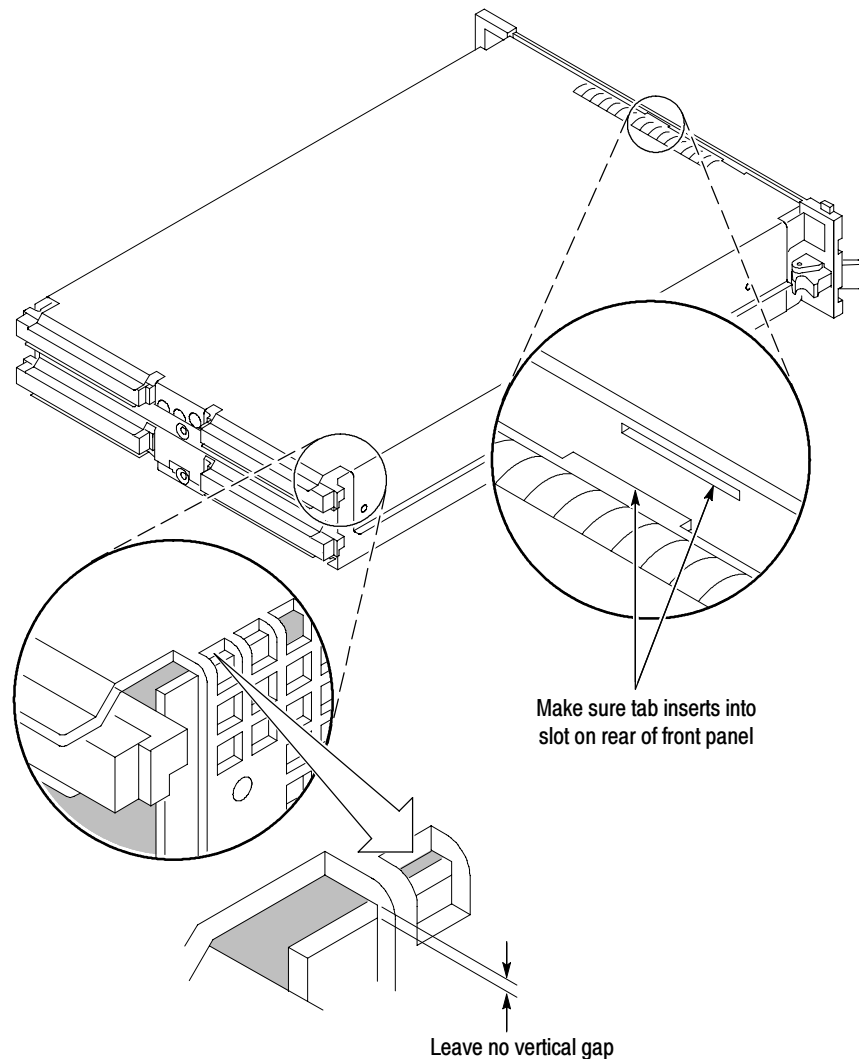

Figure 8: Seating the cover on the chassis
1. Place the cover on the chassis. Push forward on the cover so the tab on the front edge of the cover inserts into the rear of the front subpanel. Make sure that the cover is fully seated, with no gaps, against the front and rear chassis flanges (refer to Figure 8 on page 17 as necessary).